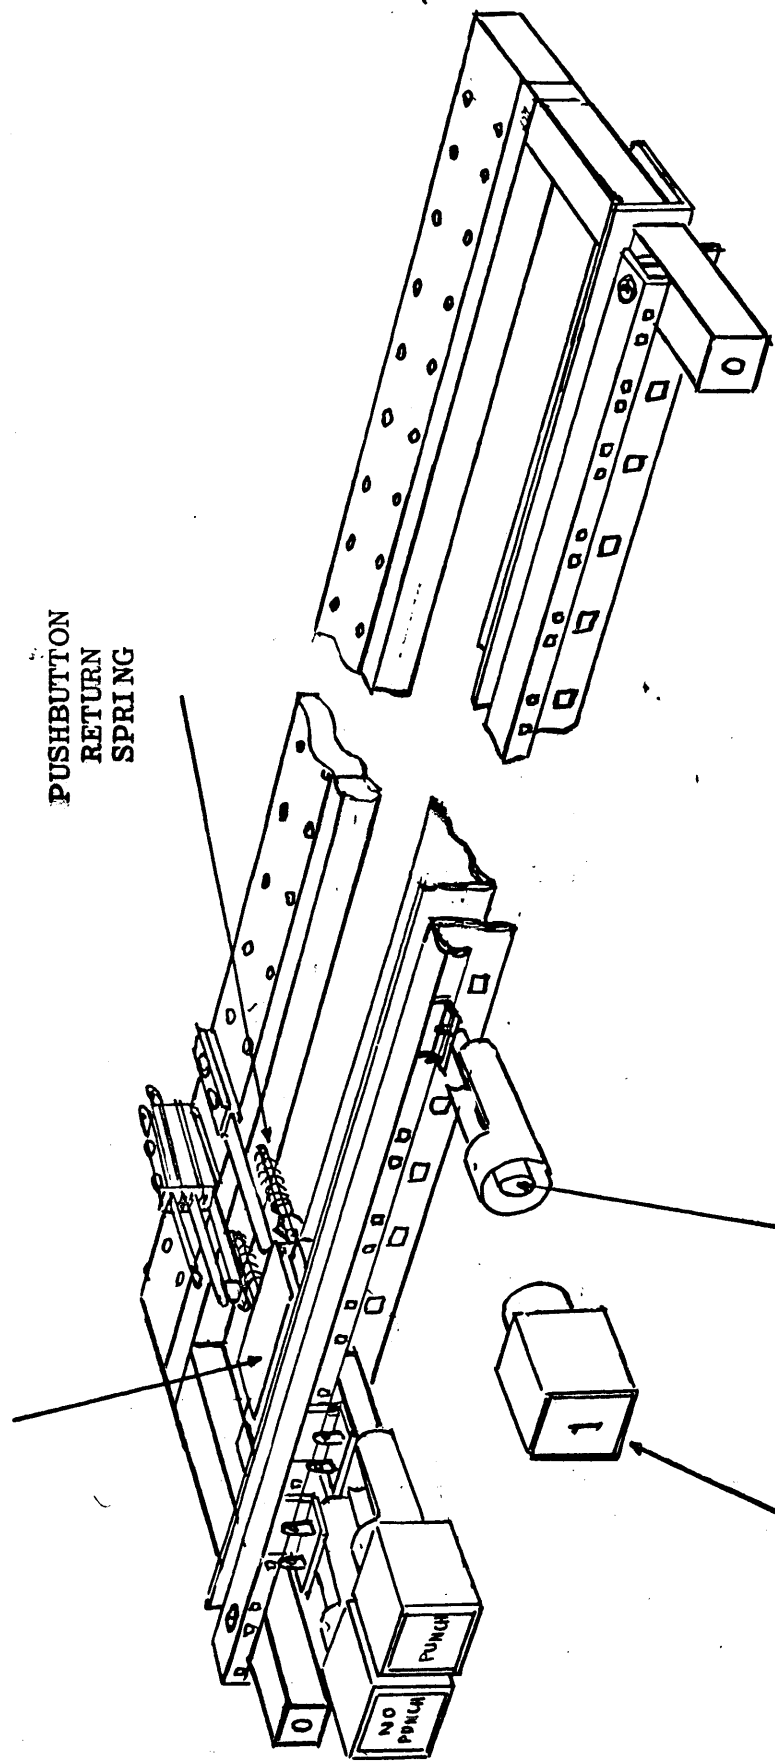

Figure 5-1. Pushbutton Deck, Assembly Diagram.
- d. Pushbutton deck assembly diagram (Figure 5-1.)